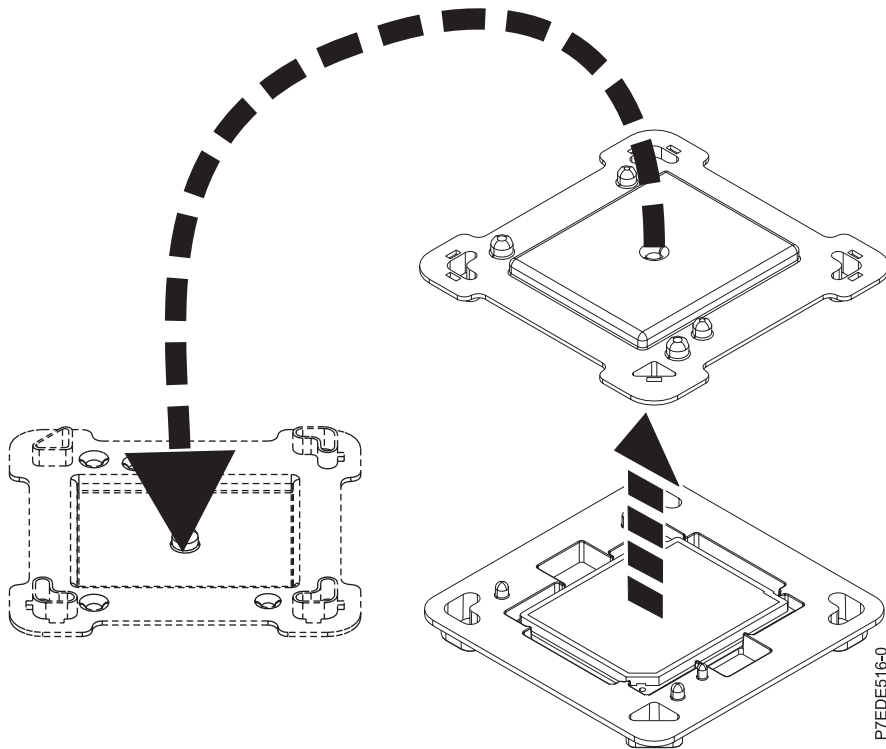

Figure 2. Opening the system processor module packaging
9. Open the packaging of the new system processor module, and place the cover upside down next to the tray, as shown in Figure 2. The cover will be used for the system processor module that you are replacing.